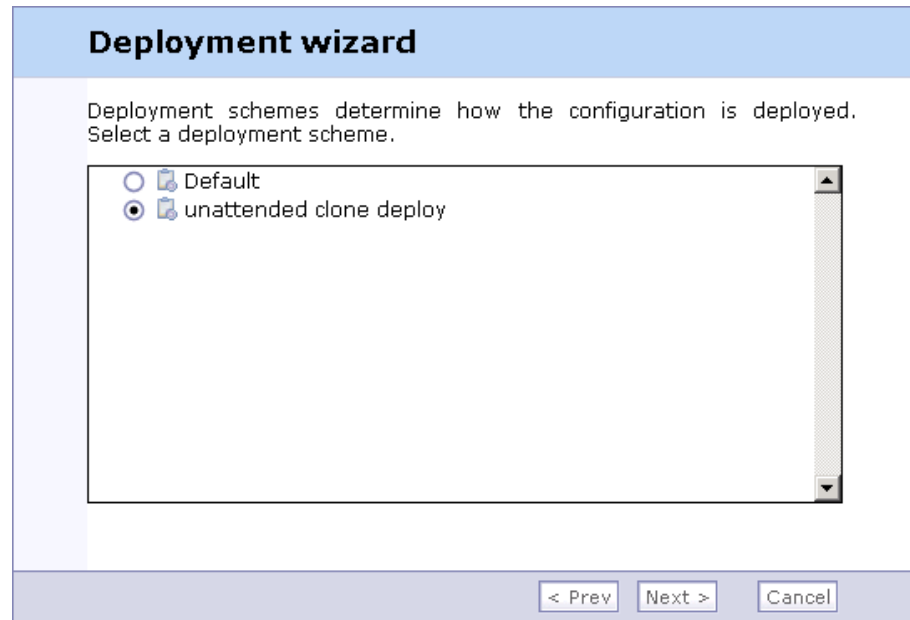

Figure 3-21 Selecting the deployment scheme for cloning
5. Select the deployment scheme that was created earlier similar to the deployment scheme created for the unattended installation, but in this case for the clone. In this scenario the deployment scheme is called “Unattended clone profile”. We select the deployment scheme and click **Next** as shown in Figure 3-21.